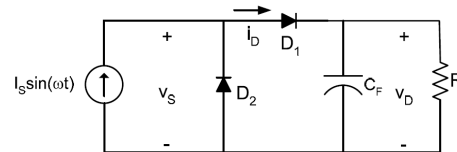

Figure 2.1 A half-wave rectifier driven from a sinusoidal current source
1. Figure 2.1 shows a half-wave rectifier driven by a sinusoidal *current* source supplying a capacitively-filtered output. (Such a configuration is sometimes found in resonant dc-dc converters.) Determine the power factor seen by the current source, assuming that the diodes act ideally and capacitance  $C_f$  is large enough such that the output voltage has small ripple ( $v_D \approx VD$ ).